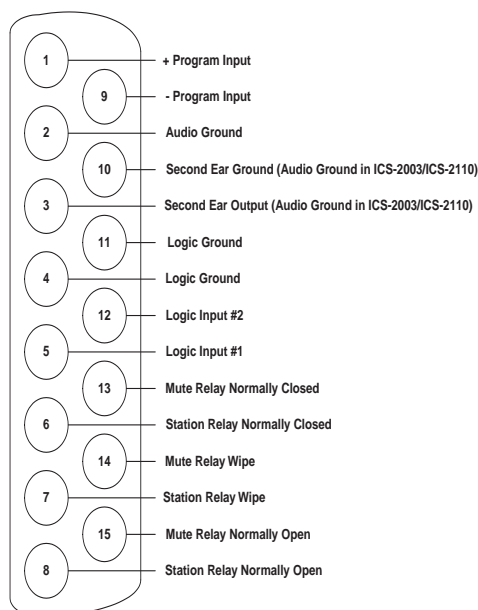

FIGURE O-24: Miscellaneous connector pinout
To connect an External Program Feed to the station connect the balanced audio pair to pins 1 and 9 and connect a shield or ground connection if available to pin 2 of the connector (refer to Figure O-24 on page O-47).
5. Connect the other side of the headset to the Second Ear Output on the Miscellaneous Connector (pin 3 and 10). The Second Ear Output provides the program audio only (refer to Figure O-24 on page O-47).
Use normally open type switches to activate the logic inputs. Connect the switches as follows (refer to Figure O-24 on page O-47):
This set of relay contacts will be activated whenever any talk path is activated at the station. You can use the contacts to activate an external device when a talk path is active, for example muting a control room monitor speaker. Refer to Figure O-24 on page O-47 for wiring details.
You can use the relay to activate an external device, such as an applause light in a studio, a cue light, or a security door lock. Figure O-24 on page O-47 shows the wiring of the relay contacts to the “Miscellaneous” connector.